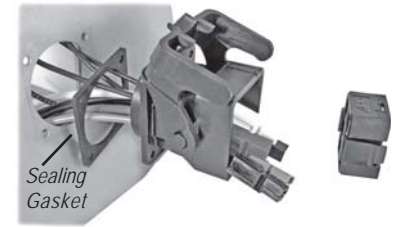

Figure 2
3. Slide SPEC Pak Receptacle Panel Mount Sealing Gasket and Shell onto wires. Panel Sealing Gasket should be between panel and rear of SPEC Pak Receptacle. (See Figure 2)